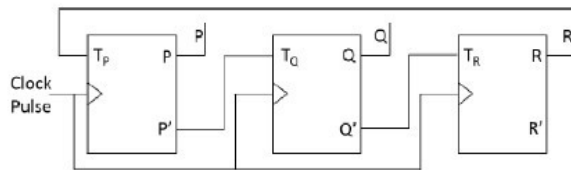

Fig. 6.4
3. Consider a 3-bit counter, designed using T flip-flops, as shown below in Fig. 6.4 Assuming the initial state of